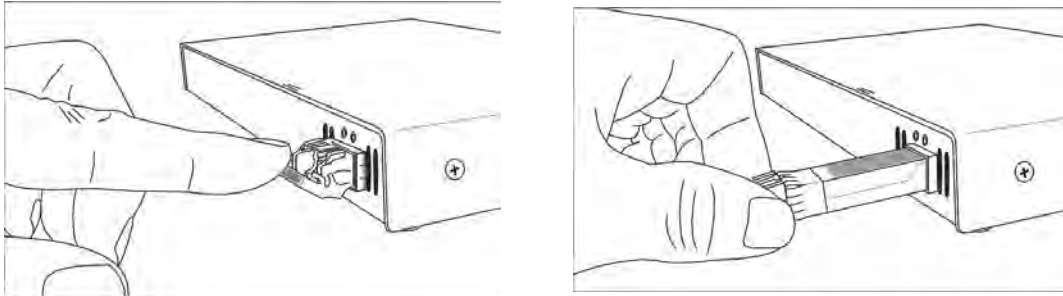

FIG. 78 Flip transceiver latch out and down, pull transceiver free from socket
- Using the tip of the index finger, swing the transceiver latch out and down. Note that the orientation of DXLink Fiber Boards varies from system to system (FIG. 78):